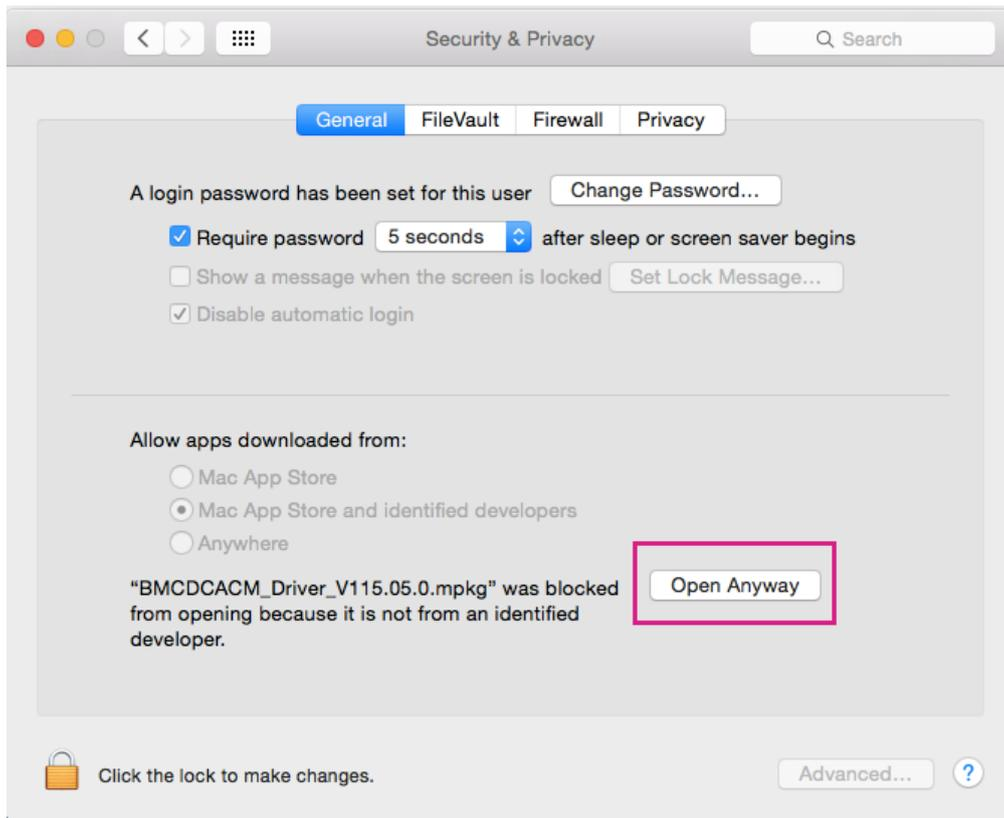

Figure 28 Permission configuration for BROM USB driver installation
- 2) In the **General** tab, click **Open Anyway** (Figure 28).